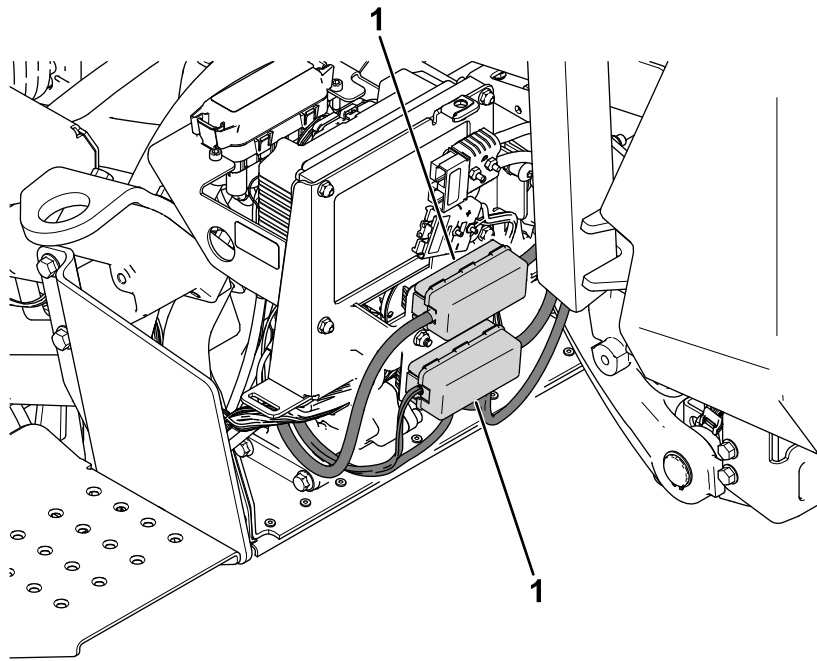

Figure 35
2. Remove and retain the fuse assemblies (fuses and cables) from the fuse bracket (Figure 35).
4. Install the fuse assemblies to the new fuse bracket (Figure 35).